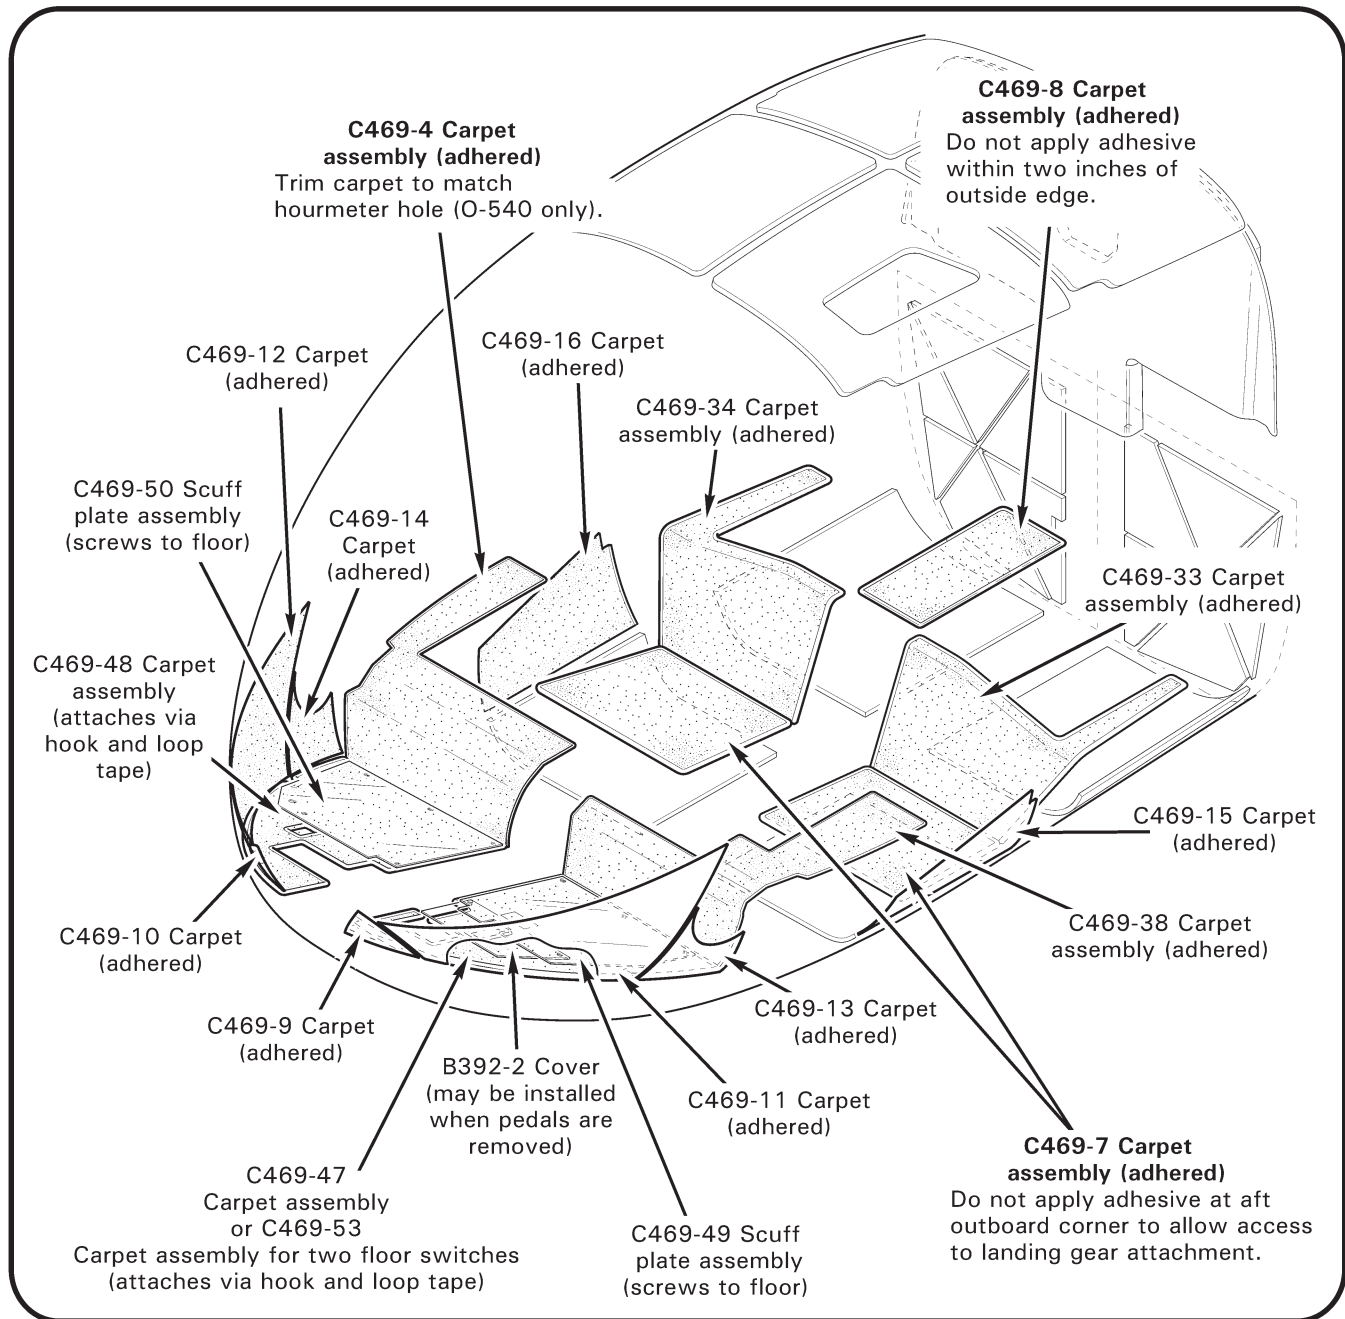

FIGURE 15-2 CARPET
1. Refer to Figure 15-2 (observe notes for specific parts). Remove adjustable and/or removable pedals, as required. If installed, remove hardware securing B392-2 cover to cabin floor and remove cover.
1. Refer to Figure 15-2 (observe notes for specific parts). Starting at corners, gently peel back carpet by hand, or with a plastic wedge or putty knife. Dampen old adhesive with Dupont Prep-Sol (or equivalent) to facilitate removal.